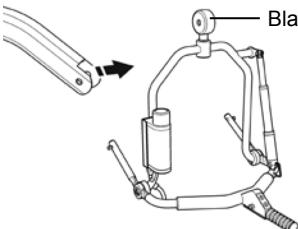

Fig. 6
To connect, raise the 4-point Adaptive Power Cradle up towards the boom slot. Insert the pin sleeve through lift boom, the black plastic end cap* and the cradle king pin. Once the pin sleeve has been installed and is supporting the weight of the Adaptive Power Cradle, re-insert the quick release pin fully into the sleeve until it locks into position (See fig. 6).
- Before using your 4-point Adaptive Power Cradle ensure the quick release pin is FULLY ENGAGED as shown in figure 6 and 7 on page 5.